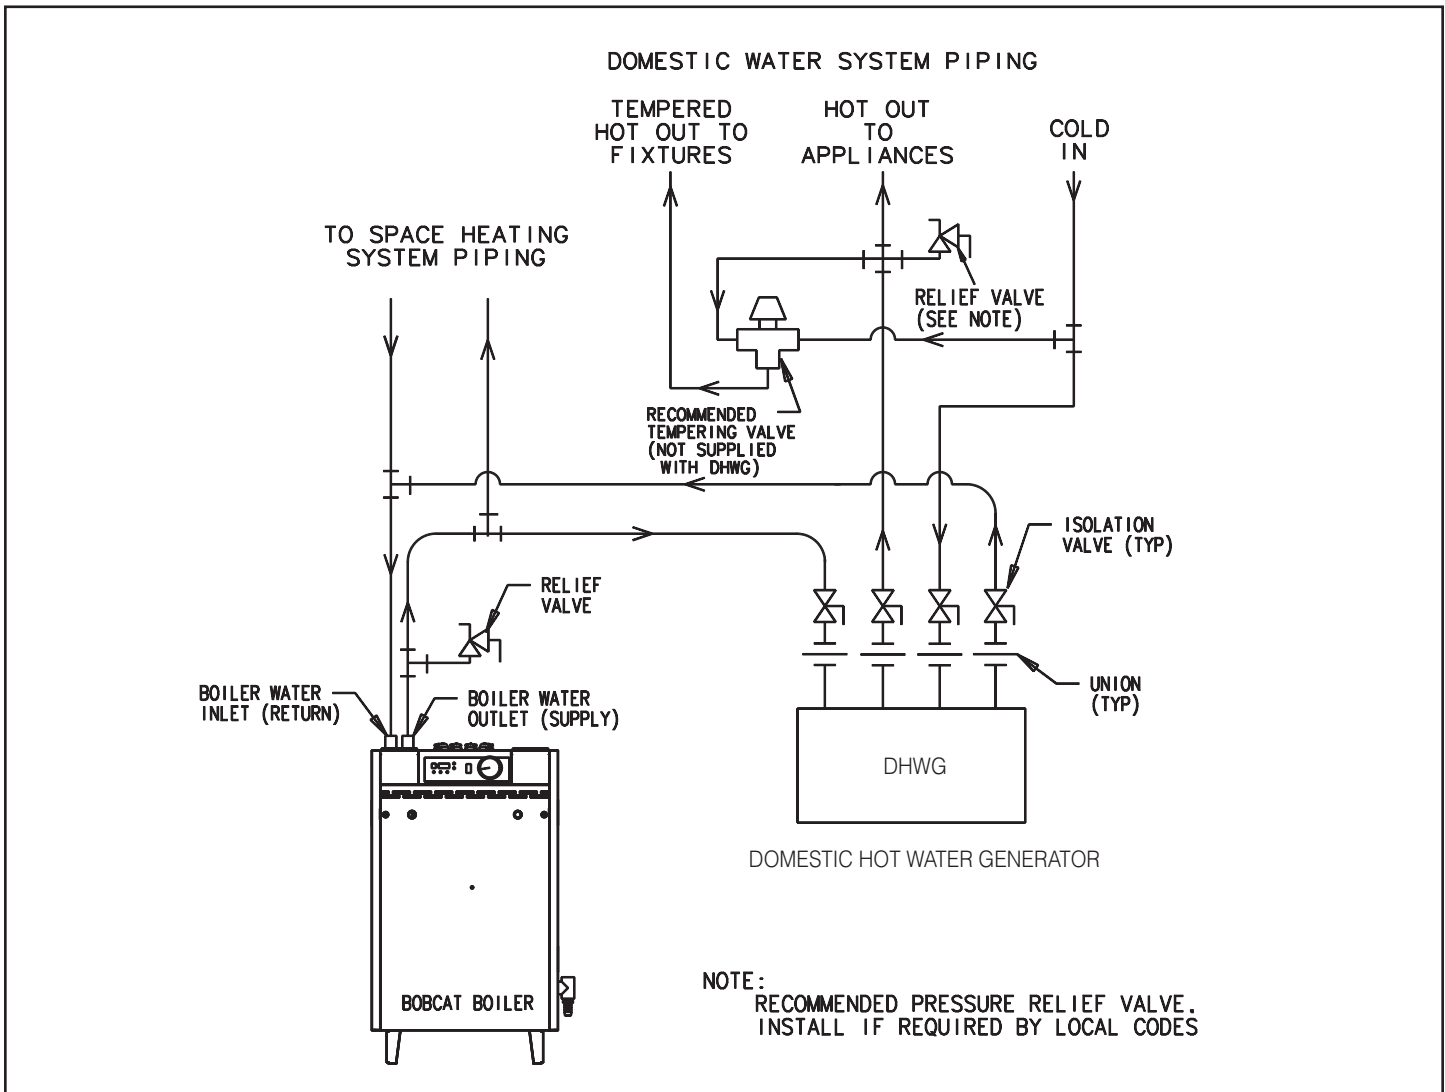

Figure 3. Water piping from boiler to DHWG system (Bobcat B-120A shown)
A tempering valve is recommended to be installed on the hot water outlet to all fixtures where direct user contact can be made with the water supplied by the DHW system, to prevent any possible scalding conditions. See Figure 3 for the appropriate installation method of this device (not supplied with the DHWG system).
1. Make all piping connections to and from the DHWG system as shown in Figure 3.
CAUTION: A tempering valve is recommended to be installed on the hot water outlet to all fixtures where direct user contact can be made with the water supplied by the DHWG system to prevent any possible scalding conditions. See Figure 3 for the appropriate installation method of this device (not supplied with the DHWG system).